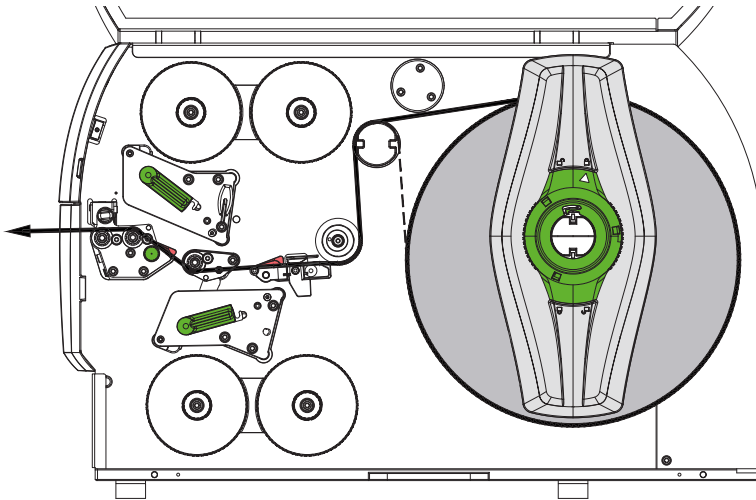
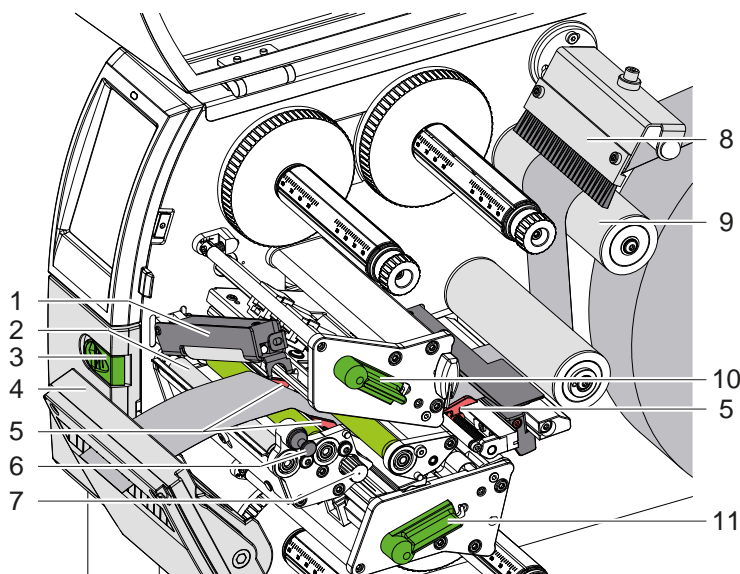

Figure 12 Media feed path
Figure 13 Inserting media into the print mechanics
1. Unroll a longer media strip. Guide the media strip to the print mechanics as shown in Figure 12.
2. Pull the detent pin (6). The pressing roller system (1) will swing upwards.
3. Turn lever (10) counterclockwise and lever (11) clockwise to lift both printheads.
4. Swivel the brush (8) from the roller (9).
5. Move guides (5) apart with the knob (7) until the media can pass between them.
6. Guide media strip through the print mechanics as shown in Figure 13 to the pinch roller (2) and place the strip between the guides (9).
7. * Devices with cutter: Slide the knob (3) to the left to fold down the cutter unit (4). Guide the media through the cutter blades and fold up and lock the cutter.
8. Move the guides against the edges of the media by turning the knob (7).
10. Pull the detent pin (6). Push the pressing roller system (1) downwards and lock it with the detent pin.
13. Swivel the brush (8) to the roller (9).